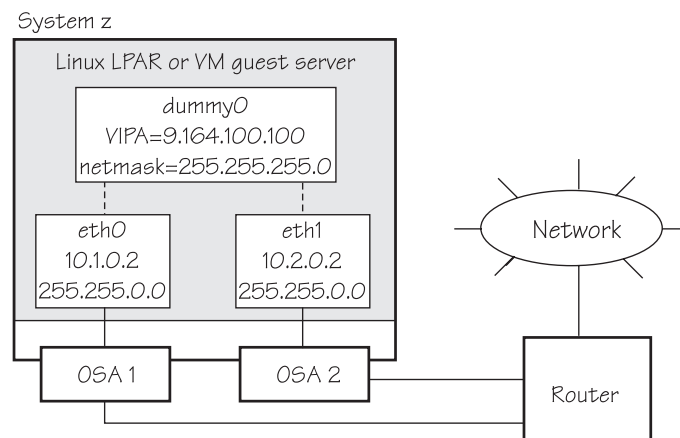

Figure 25. Example of using Virtual IP Address (VIPA)
- Static routing (shown in the example of Figure 25).
Figure 25 shows the network adapter configuration used in the example.